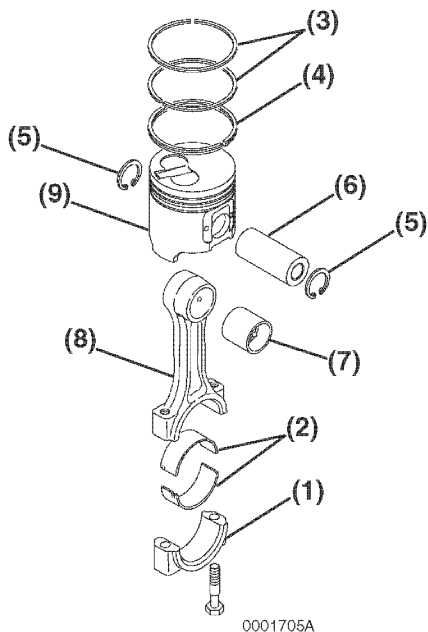

Figure 6-83
2. If removed, install a new wrist pin bushing (Figure 6-83, (7)) using a press and the appropriate service tool. Be sure to align the oil holes.
3. Reinstall one circlip (Figure 6-83, (5)) into the piston. Ensure the circlip is securely seated in the groove.